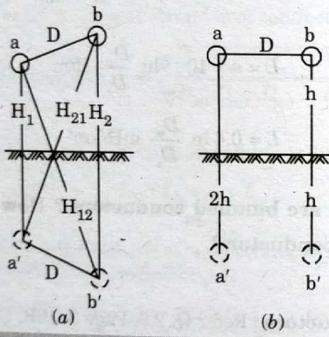

Fig. 4.20.1. Single-phase single-circuit line.
1. Fig. 4.20.1(a) shows a two-wire single-phase line having conductors  $a$  and  $b$ . The spacing between the conductors is  $D$ .  $a'$  and  $b'$  are images of  $a$  and  $b$  respectively. The charges on  $a$  and  $b$  are  $+q$  and  $-q$  respectively.
- i. When the conductors  $a$  and  $b$  are at the same height  $h$  from the ground as shown in Fig. 4.20.1(b).